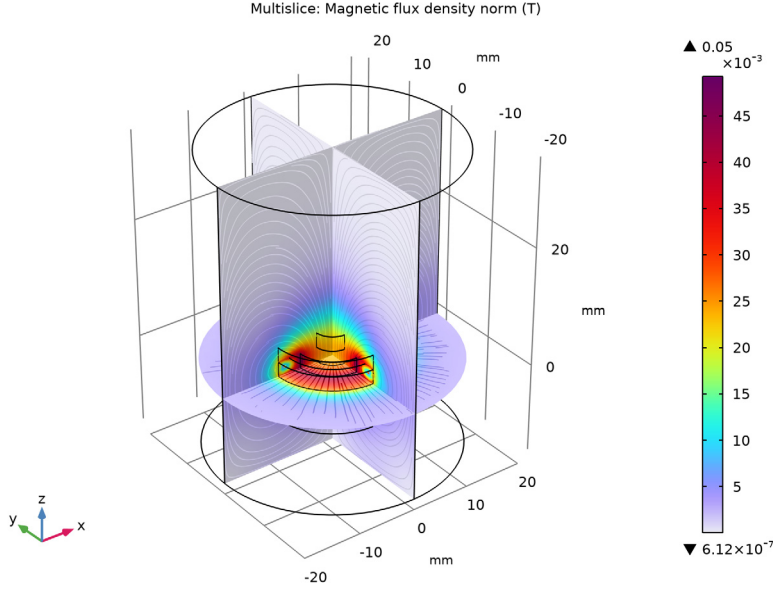

Figure 1: Plot of the magnetic flux density in the magnetic lens.
The magnetic flux density is plotted in Figure 1. The strength of the lens depends upon the coil configuration and current. The lenses within electron microscopes are generally very strong, in some cases focusing the electron beam within the lens itself.
- 5 In the **Magnetic Flux Density Norm (mf)** toolbar, click  **Plot**. Compare the resulting image to Figure 1.